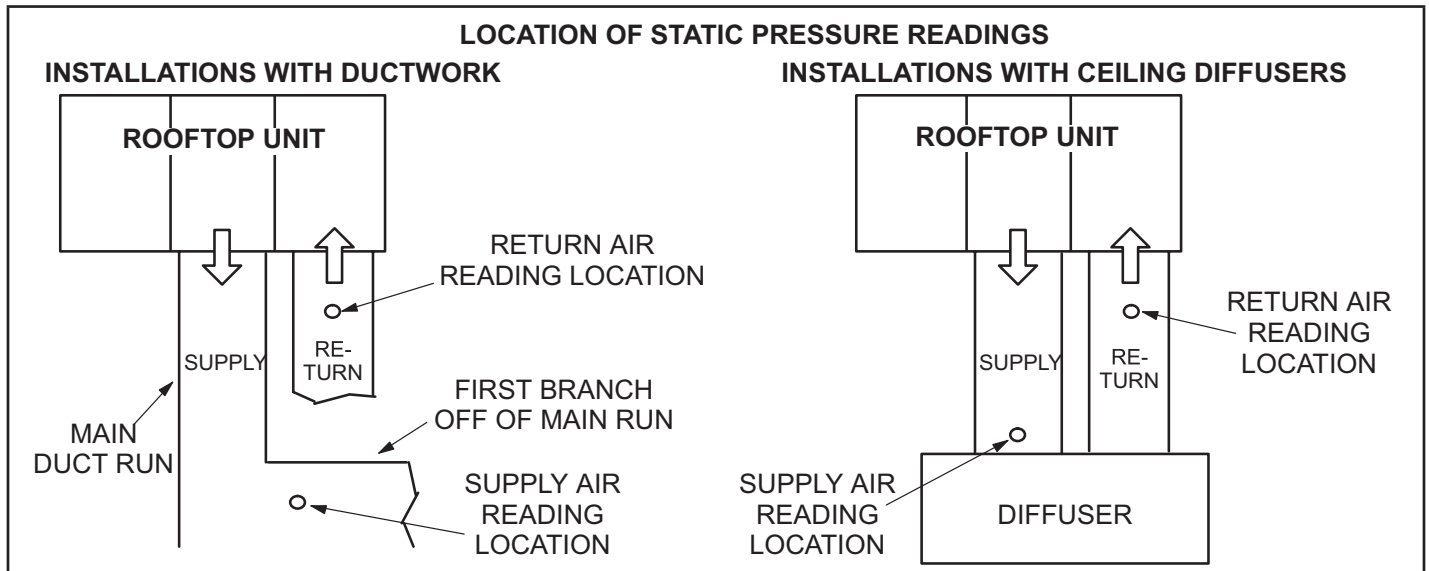

FIGURE 11
- 2 - With all access panels in place, measure static pressure external to unit (from supply to return). Blower performance data is based on static pressure readings taken in locations shown in FIGURE 11.